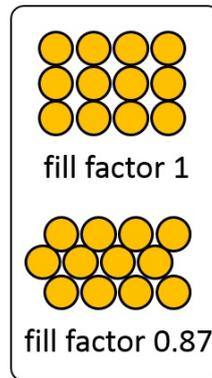

Figure 2: Fill factor definition.
- **Fill factor (0.87-1.0)**, see Figure 2.
Reel properties are: (see Figure 2 for dimension definitions)